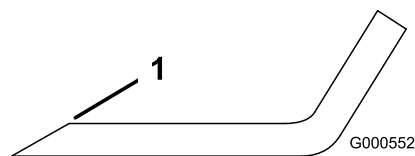

Figure 59
1. Use a file to sharpen the cutting edge at both ends of the blade (Figure 59).
Note: If the blade is not balanced, file some metal off the end of the sail area only (Figure 59).